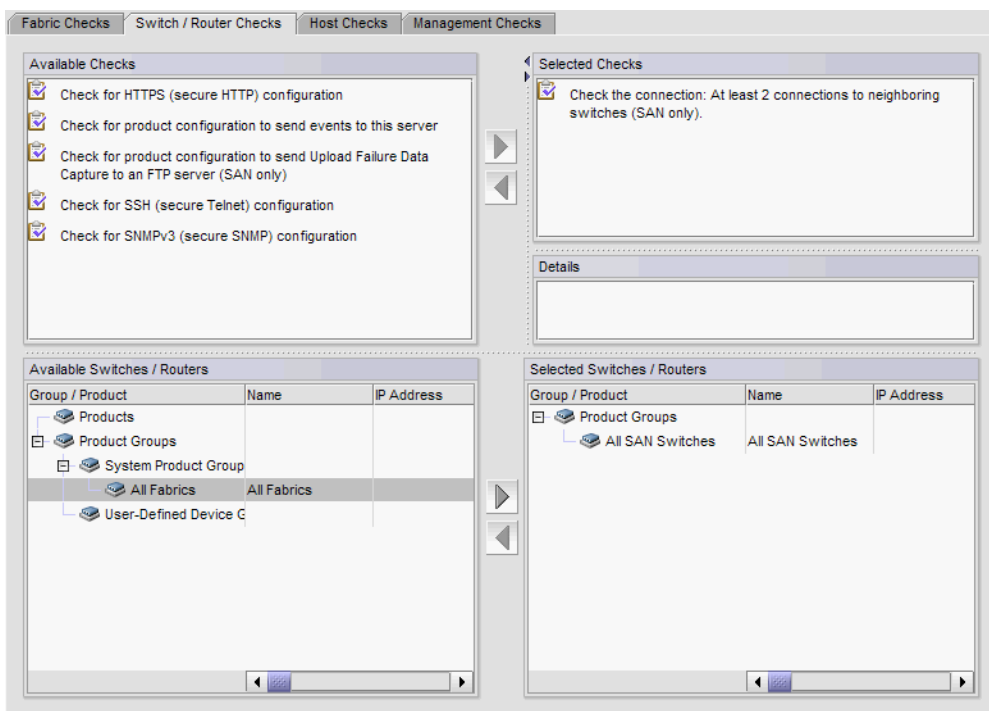

FIGURE 439 Add Policy Monitor dialog box, Switch/Router Checks tab
7. To set policy monitors for switches, select the **Switch/Router Checks** tab (Figure 439) and complete the following steps.